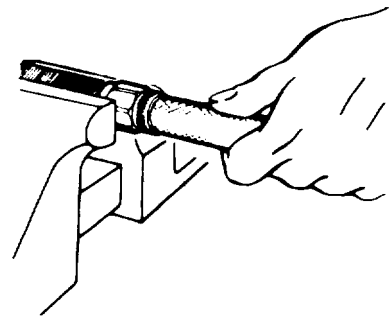

Figure 16I-4. Install the Hose into the Socket
3. Hold the hose so that it enters the socket straight, Figure 16I-4. Rotate the hose counterclockwise while pushing it into the socket.